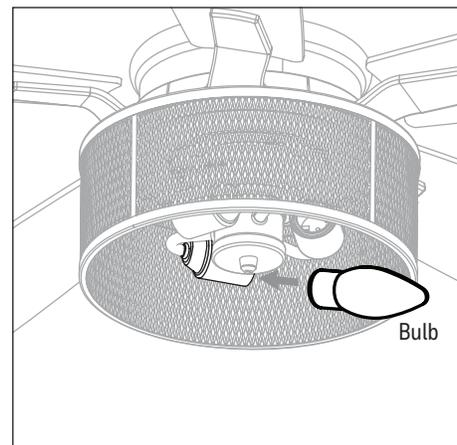

Figure 5.8
- Install the three E26-base bulbs into the sockets of the light kit (Figure 5.8).